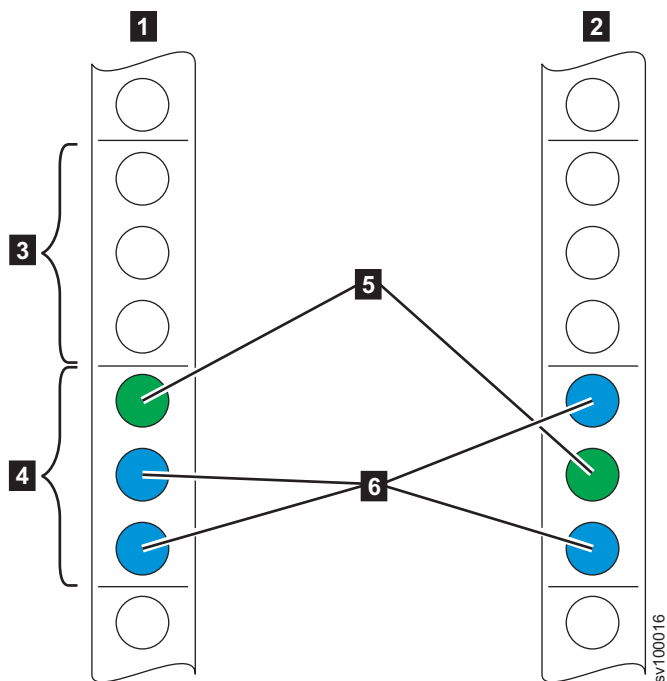

Figure 58. Identifying rack space
2. Select an available 2U space (depending on the node you are installing) in your rack to install your node, as shown in Figure 58 on page 84.